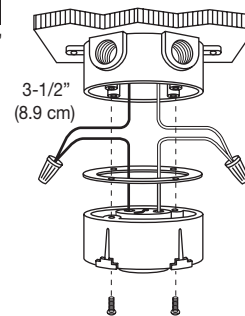

Figure 2b
3b. Using a 4-1/8" (10.5 cm) round box (Figure 2b):
- Attach the socket assembly to the adapter ring using the socket assembly mounting screws (Figure 2b).